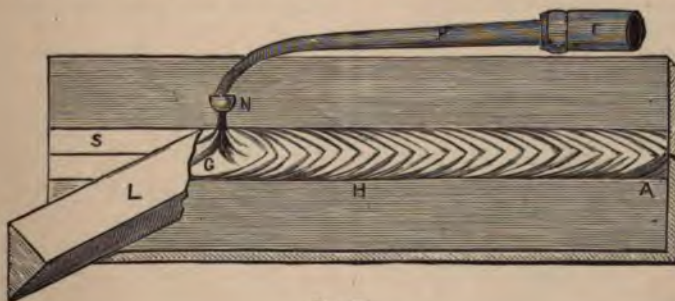
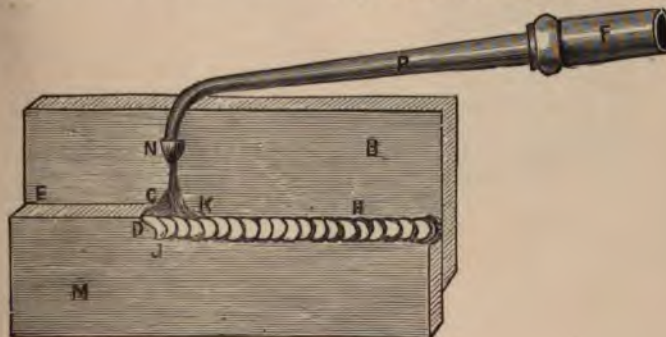
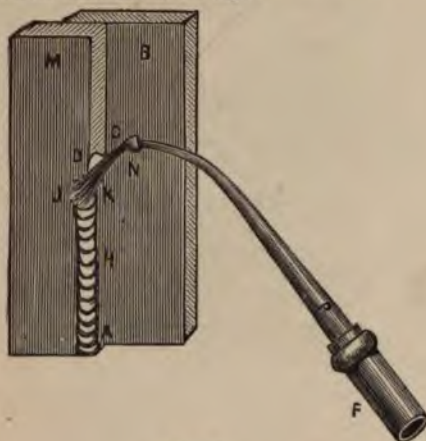

FIG. 75.
FIG. 80
FIG. 81.
NOTICE.—It is important that you hold the blow pipe straight and in a line with the shaving, and nearly level over that part which you have burnt, as illustrated in Fig. 75. To put the pipe before that part which you have burnt is burning back-handed.
N.B.—The stick metal L, Fig. 75, is shown leaned rather too much to the left, but its true position will be acquired by practice. You must continue to practice this class of burning, occasionally trying the flat and then the lapped until you feel yourself thoroughly competent to do the work with freeness and ease, and until you can execute it so that it shall, when finished, have the appearance of that shown at Fig. 75, which is taken from a photograph of some work done by myself expressly for this work.
upright work. I have before said that it is necessary to hold the pipe in a line with the work, as at Fig. 75. The pipe should be held as shown at Fig. 80, when at work on side or horizontal burning. And if you turn the drawing
Here the pipe in Fig. 80 is in a line with the seam, it is also held near about level. Now refer to Fig. 81; let M be the bottom lead, and B the top.
Fig. 80 is some horizontal burning and a photographic specimen of lead burning done by the author at a contest of plumber's work at South Kensington Museum on the first of March, 1882, in the presence of about a hundred plumbers and architects.
fix the bottom after the sides, so that the burning may be done as shown at Fig 80. The sides are sometimes hung up with straps burned on as shown at B B; then the tacks nailed to the cross-rail, as also shown. These tacks should not be more than 15in. apart; the top of the sides should be brought over the top of the crown tree, and sufficiently far over the lowest side to allow the rain-water to fall into a gutter; the side is then well nailed to the crown tree. [A further explanation as to the method of fixing the sides will be given later on.] Next the top is put on and burned to the sides, as illustrated upon the crown tree at D D. After this the top joists are put on and the top straps C C, which